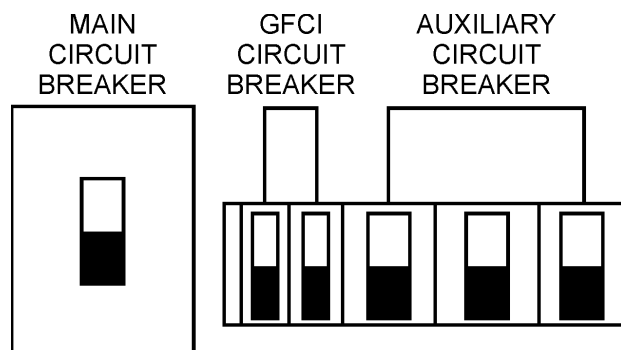

Figure 56. Main, AUX. and GFCI Circuit Breakers (OFF)
1. Switch the **MAIN**, **AUX** and **GFCI** circuit breakers (Figure 56) to the **OFF** position (no load).